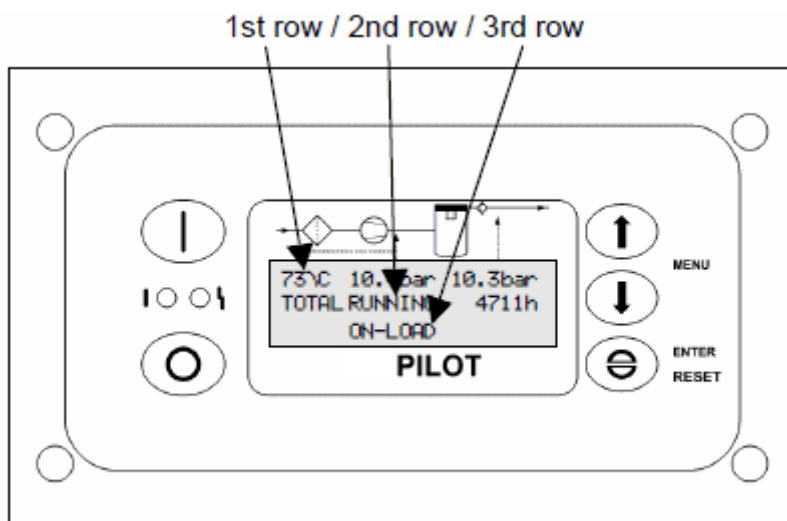

Figure 3-1 Pilot Controller Layout and Main Screen
- See Fig 3-1 for the layout of the main screen and input devices.
- The (I) key switches unit on.
- The (O) key switches unit off.